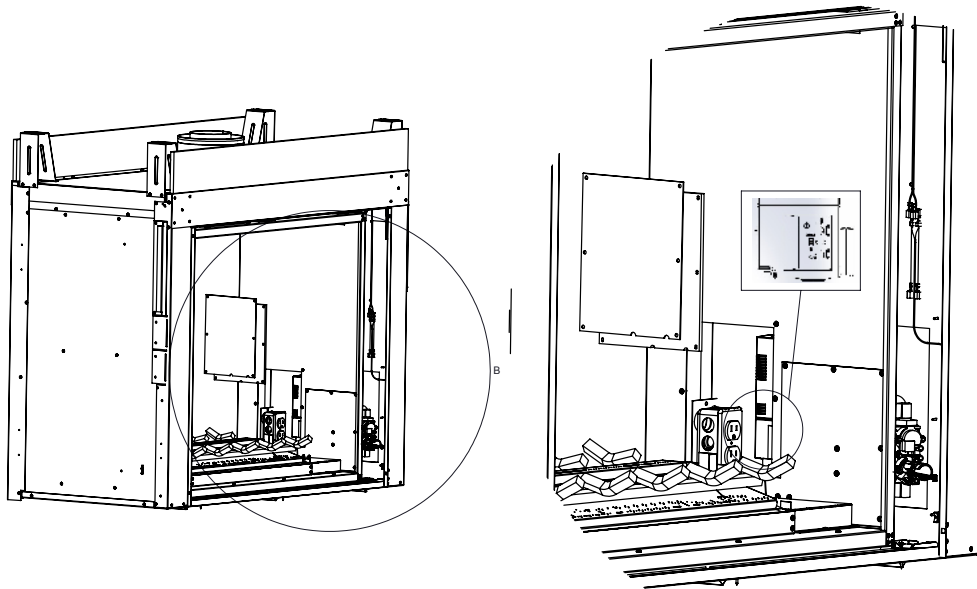

Figure 3.5
The Intellifire™ Touch intermittent pilot ignition system comes with a battery backup system that enables the system to operate in a power outage. The system offers seamless transition from household AC power to battery backup. A factory-installed battery pack is located in the control cavity of the appliance. See Figure 3.5. Battery longevity and performance will be affected by long term exposure to the service temperatures of this appliance.
5. Remove the access panel to access the control module by unfastening the six screws. See Figure 3.5.